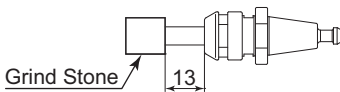

Fig. 20
- ① The proper surface speed for general grindstones is 10 - 30m / s.
- ② Do not exceed 13mm of overhang for mounted grindstones as shown in Fig. 20. If the overhang must exceed 13mm, reduce the motor speed in accordance with table 2.
- ③ Dress the grindstone prior to use.
- ④ Do not use cutting tools with bent or broken shanks, cracks or excessive run-out.
- ⑤ For grinding, the maximum depth of cut should not exceed 0.01mm radially or axially. Reciprocate the tool several times after each pass to eliminate tool pressure.
- ⑥ Always operate cutting tools within the allowable recommended speed of the cutting tools. Use of a cutting tool outside of the allowable speed of the cutting tools could cause damage to the spindle and injury to the operator.
- ⑦ When replacing the tool, make sure the tool shank, collet chuck, chuck nut, and inner face of the collet holder are clean. If ground particles or metal chips stick to the inside of the collet chuck, damage to the collet holder or spindle can occur due to the loss of precision.
- ⑧ Do not strike or disassemble the spindle.
- ⑨ Please minimize the tool overhang amount to maintaining high accuracy. 13mm is the maximum amount of overhang to maintain high accuracy and safety.